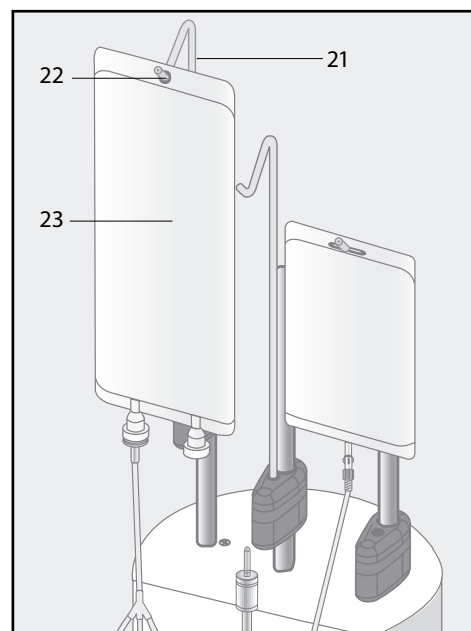

Figure 18: Attach CliniMACS PBS/EDTA Buffer for Research Use to bag hanger.
2. Attach the buffer bag (23) to the buffer bag hook (22) on the bag hanger (21, fig. 18).
3. Adjust the height of the buffer bag hanger. Raise or lower the hanger to accommodate the size of the buffer bag. Ensure that it is positioned high enough to prevent severe bending of the tubing that could restrict the flow, and that it is low enough to avoid the tubing or connections being stretched (see fig. 18).